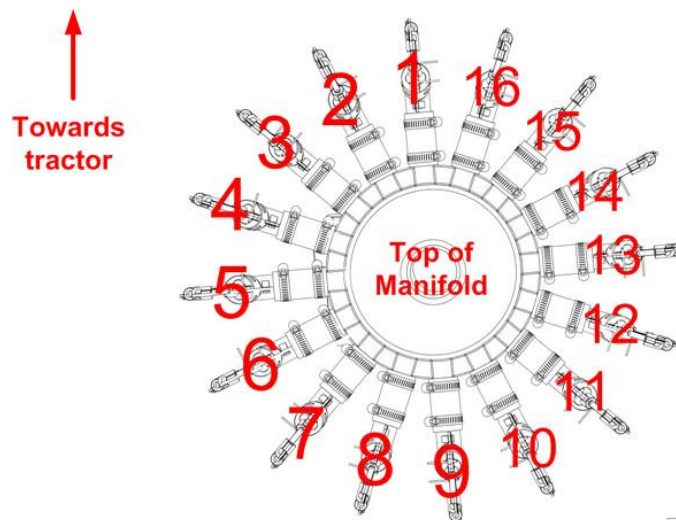

Figure 17: Order to connect flow sensors to ECU
2. Remove and discard the cap at the end of the flow sensor tube of the run that is immediately left of the manifold post (when facing the tractor) (run labeled “1” in Figure 17).
7. Continue removing the caps from the ends of the flow sensor tubes, running them through the top of the ECU bracket, and attaching them to the proper ECU port, continuing to work counterclockwise around the manifold, as shown in Figure 17
- c. *Add flow sensors to the manifold*. Using the drop-down menu, select which ECU port the respective run's sensor flow hose is connected to. Refer to Figure 17 to determine how the runs are numbered
4. From the Edit a Manifold screen (shown in Figure 21), use the drop-down menu to select which ECU port the respective run's sensor flow hose is connected to. Refer to Figure 17 to determine how the runs are numbered